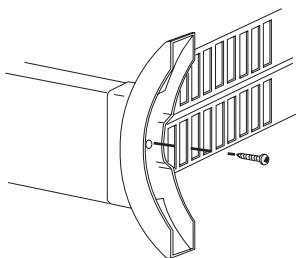

Fig. 2
- Fasten the feet in position using the screw (fig. 2)